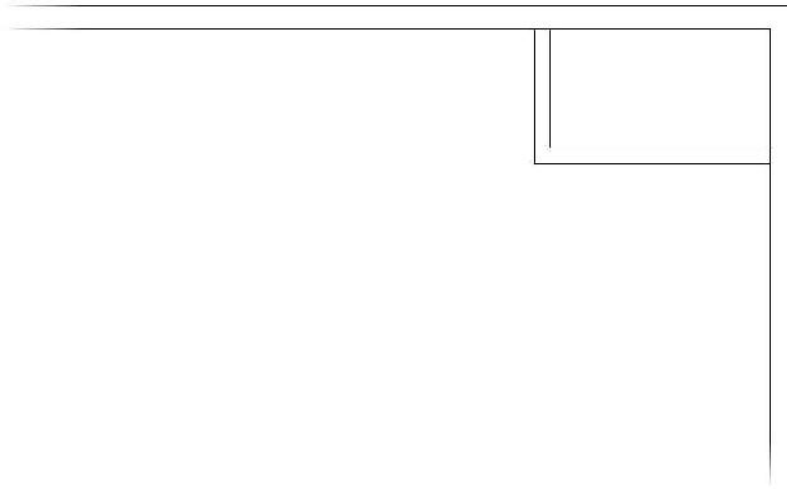

FIGURE 4.26: Fillet the two corners.
5. Use the FILLET command to clean up the interior and exterior wall line intersections, as shown in Figure 4.26.